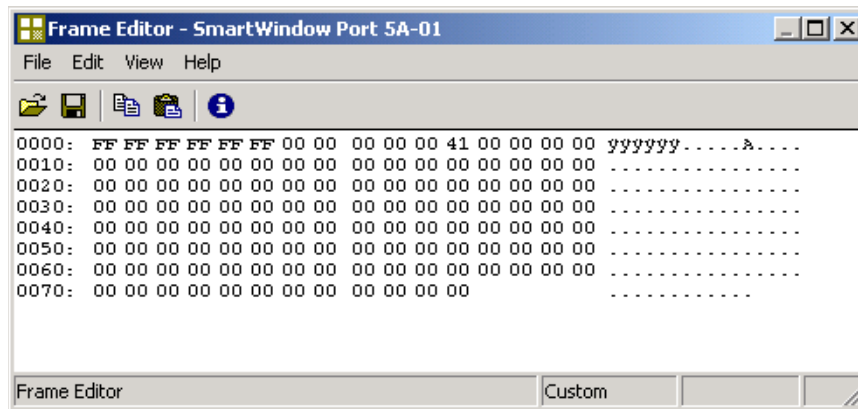

Figure 8-56. Custom Frame Editor
- 4 Click the **Edit** button in the *SETUP* pane to display the Frame Editor. (See *Figure 8-56*.)